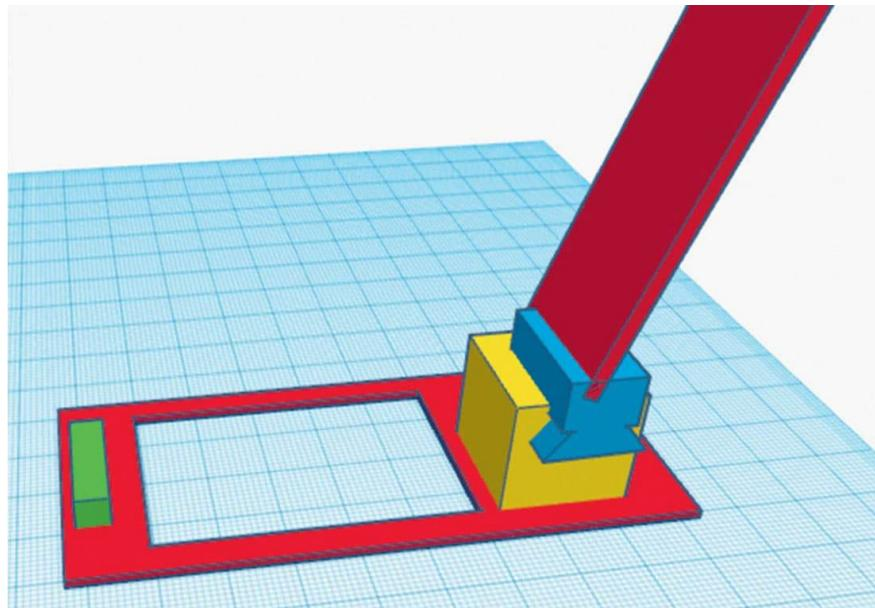

FIG. 3: The assembled view of the cell phone holder.
Add a cut-out in the base. This is not necessary, but can save material. See fig. 3 for details. The size of the cut-out can vary depending on the amount of material you want to save.
- Consider creating some holes, to save material (see the rectangular-shaped hole in the base in fig. 3).